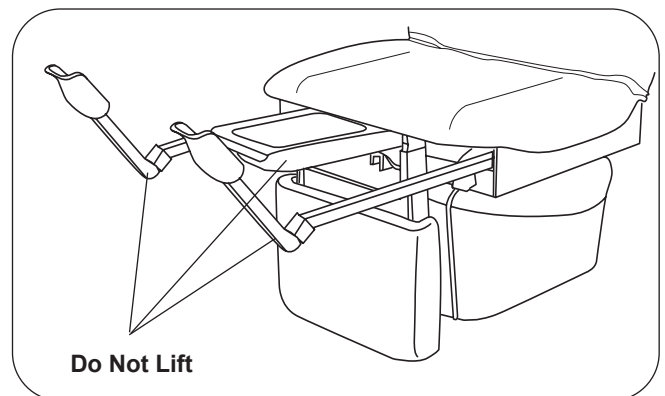

Figure 4. Stirrups and Treatment Pan
3. Remove packing tape from stirrups (Figure 4). Pull out treatment pan slide and remove packing tape from the treatment pan assembly components. Return treatment pan slide to its stowed position.